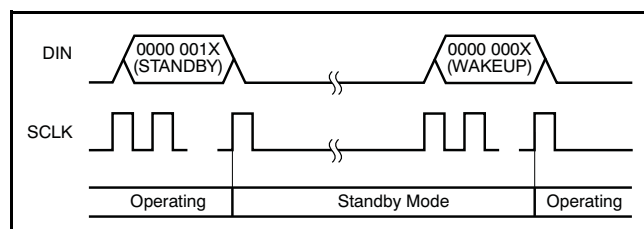

Figure 53. STANDBY Command Sequence
**Description:** This command places the ADS1281 into Standby mode. In Standby, the device enters a reduced power state where a low quiescent current remains to keep the register settings and SPI interface active. For complete device shutdown, take the  $\overline{\text{PWDN}}$  pin low (register settings are not saved). To exit Standby mode, issue the WAKEUP command. The operation of Standby mode is shown in Figure 53.